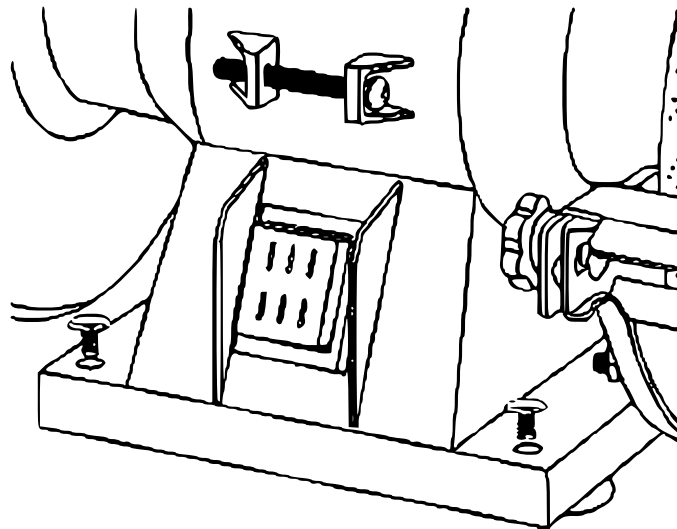

Figure 3
3. Put the grinding machine back in the right place and secure it with the appropriate screws and washers (see Fig. 3).
3. The wheel protection is removed after removing the three screws on the outside with a cross-head screwdriver (see Fig. 3).